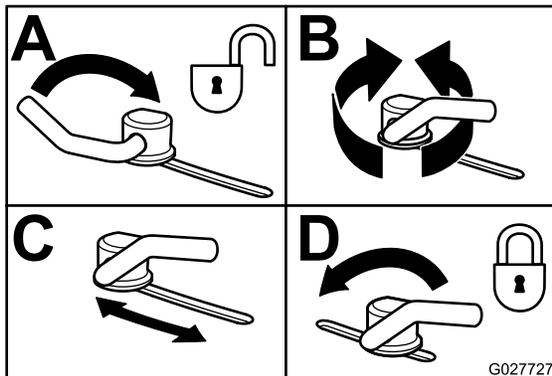

Figure 36
3. To adjust the cam locks, swing the lever up to loosen the cam lock (Figure 36).
5. Swing the lever back over to tighten the baffle and cam locks (Figure 36).